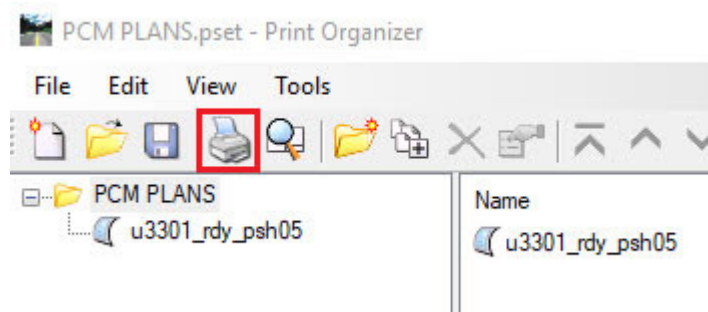

Figure 35 “Print”
Step 12. Then Select OK in the Create Print Definitions dialog box. This will load the plan sheet into the Print Organizer for creating the PCM or PCM Enlargement PDF. Next select the “Print” icon. See Figure 35